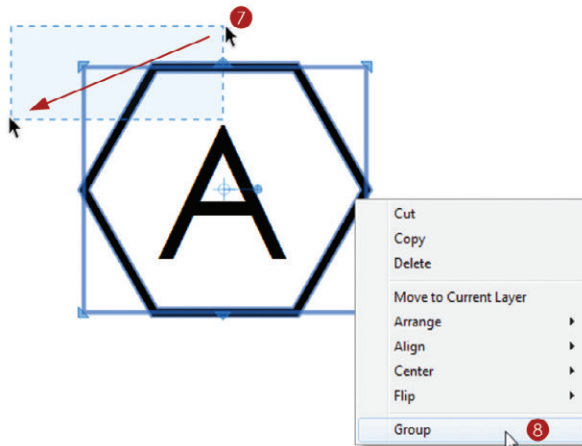

Figure 13.16 Group the window tag so that it functions properly as a scrapbook.
8. Right-click on the selection and choose Group so it functions properly as a scrapbook (Figure 13.16).